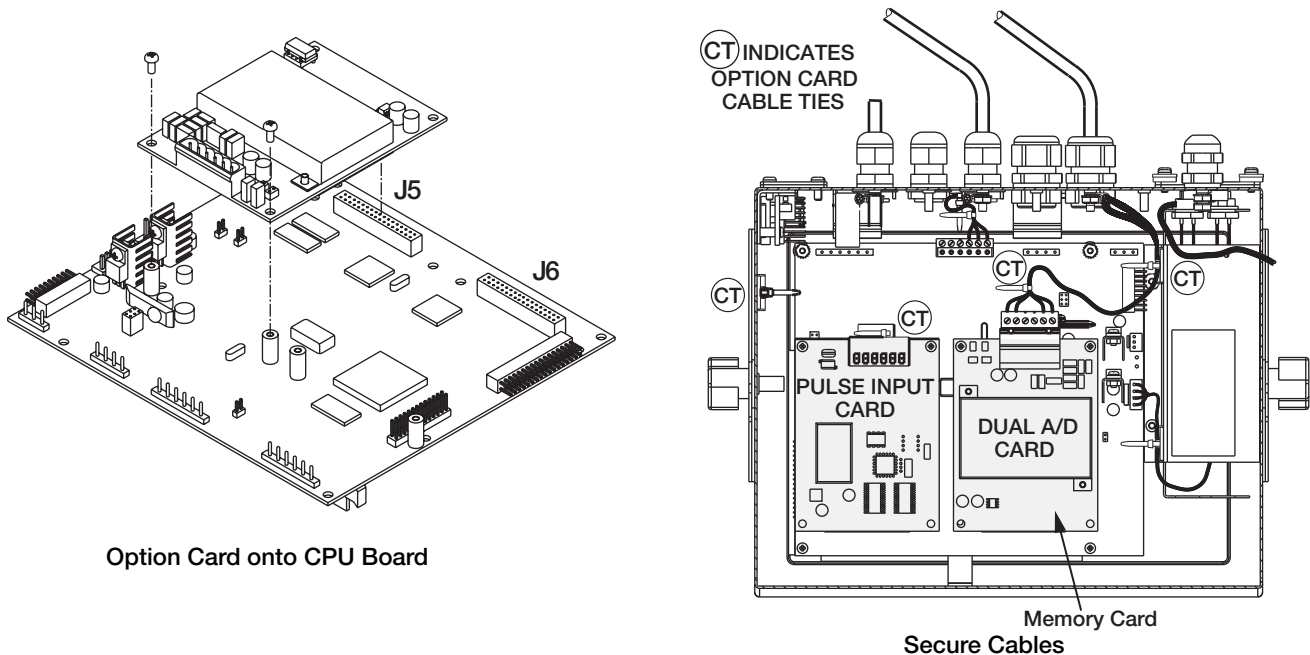

Figure 2-6. Installing Option Card
3. Carefully align the large option card connector with connector J5 or J6 on the CPU board. See Figure 2-6.
5. Use the screws provided in the option kit to secure the other end of the option card to the threaded standoffs on the CPU board. See Figure 2-6.
7. Use cable ties to secure loose cables inside the enclosure as shown in Figure 2-6.